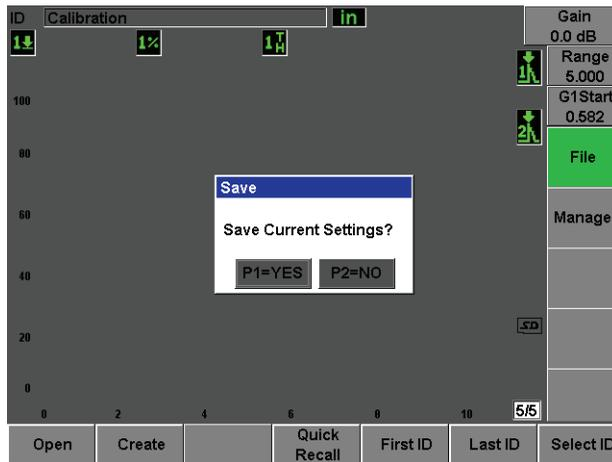

Figure 2-21 The Save dialog box
10. Press **Save** (see Figure 2-21 on page 50).